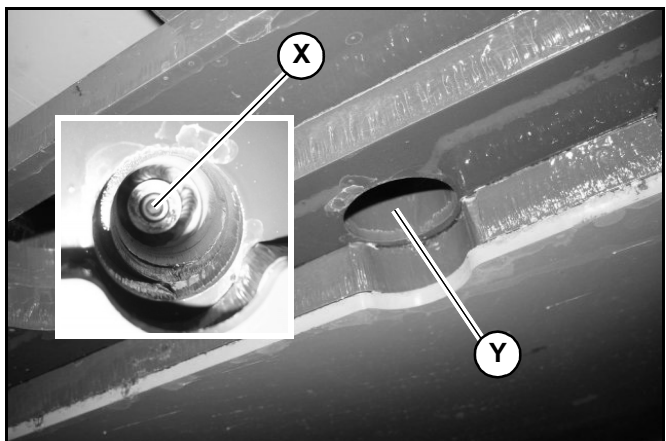

Fig. 92 – Radiator Drain Access
7. Access radiator drain plug (X, Fig. 92) through access hole (Y) in the frame underneath the radiator. Using an allen wrench, remove radiator drain plug (X) and allow the coolant to drain into the container.